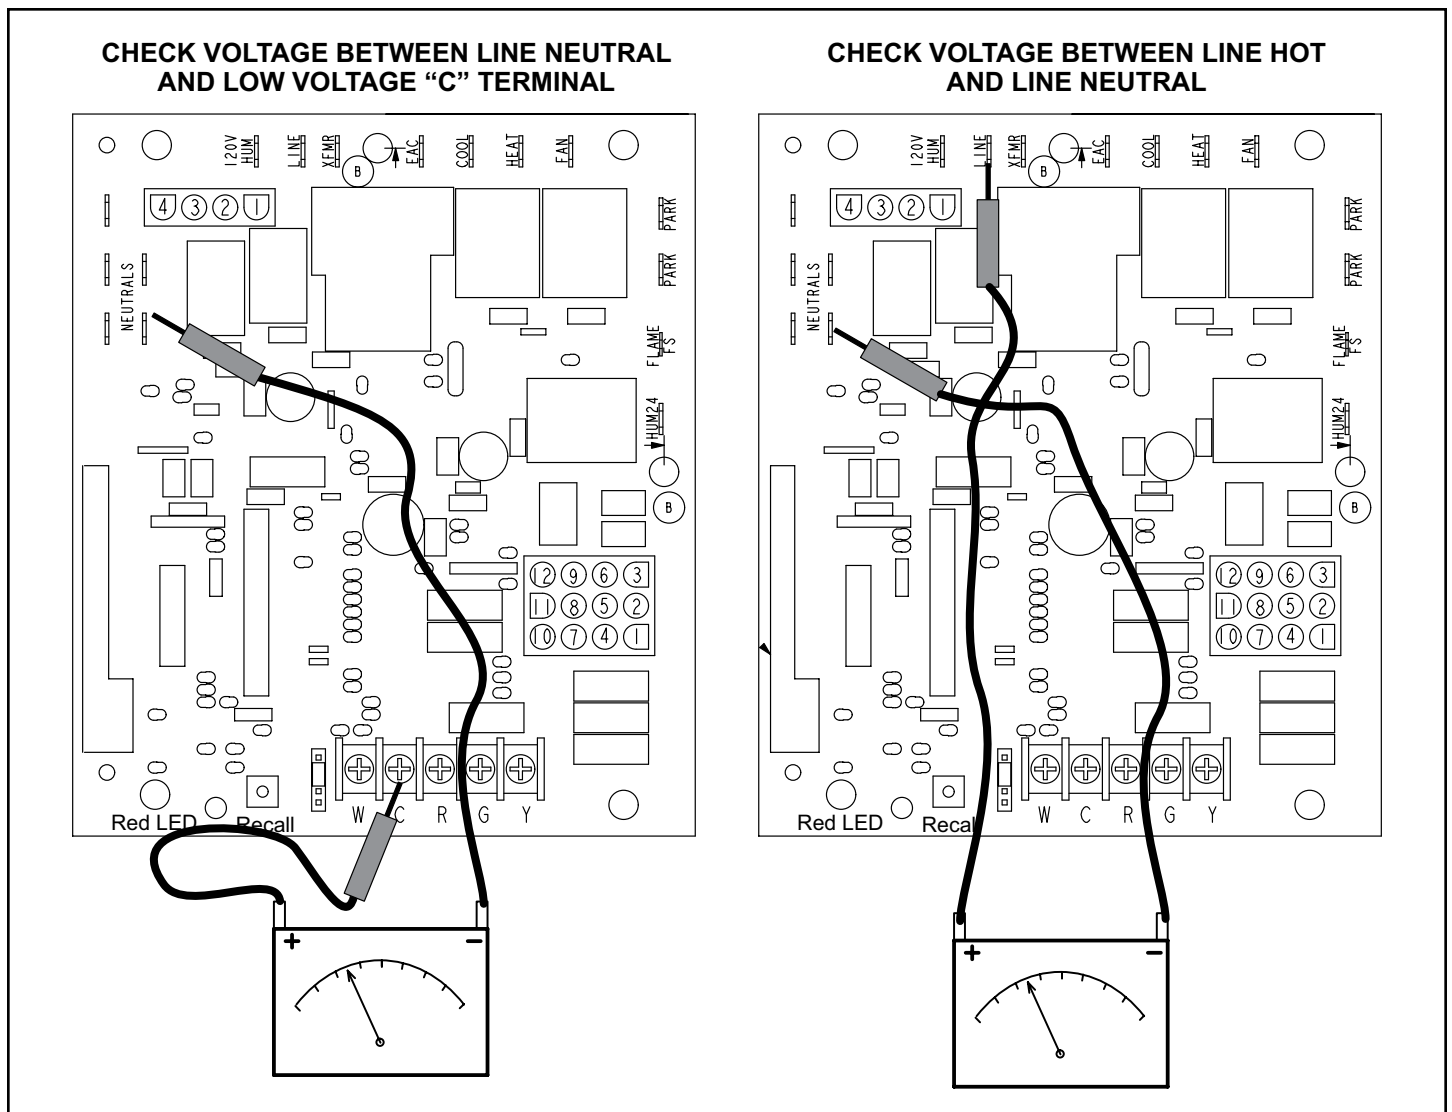

Figure 52.
1. Measure the AC voltage between Line Neutral (spade terminals) and "C" terminal (low voltage terminal block) on the integrated control. See Figure 52. A wide variation in the voltage between Line Neutral and "C" as a function of load indicates a poor or partial ground.
2. In addition, measure the AC voltage from Line Hot to Line Neutral (spade terminals) on the integrated control. See Figure 52. This voltage should be in the range of 97 to 132 VAC
Blower speed tap changes are made on the integrated control. See Figure 3 or Figure 52. The heating tap is connected to the "HEAT" terminal and the cooling tap is connected to the "COOL" terminal. On all units the continuous blower tap is connected to the "FAN" terminal. Unused taps must be secured on two dummy terminals labeled "PARK". To change out existing speed tap, turn off power and switch out speed tap with tap connected to "PARK". See blower speed tap table on unit diagram for motor tap colors for each speed.